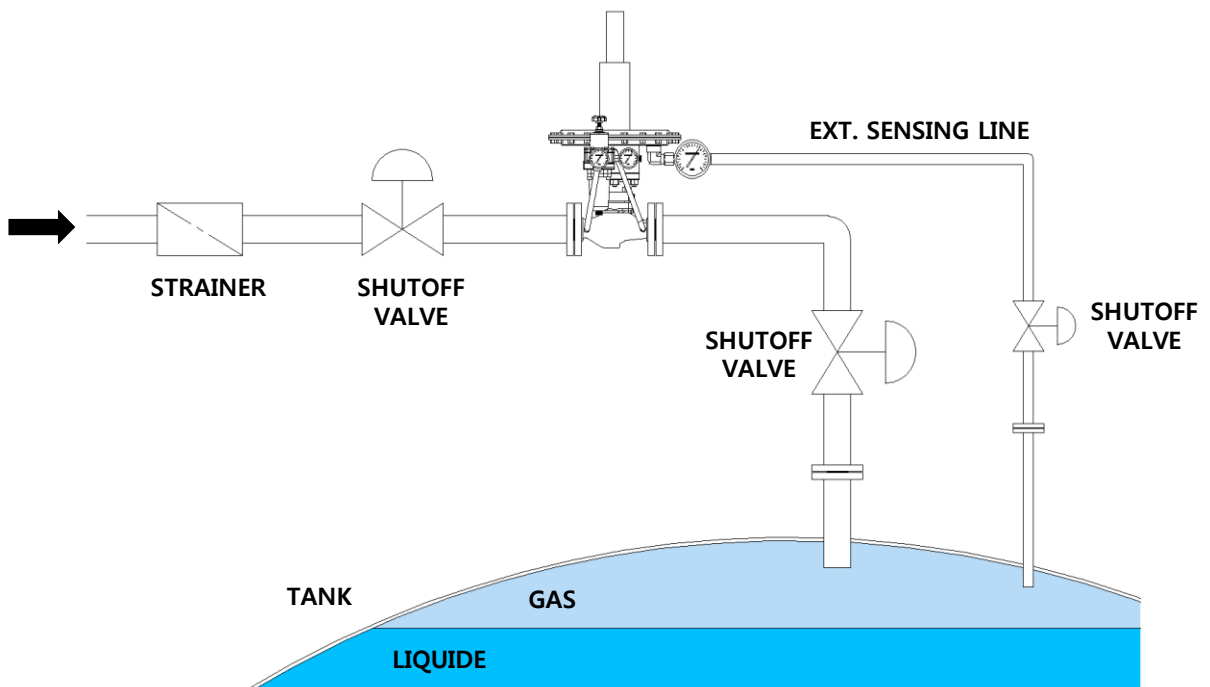

Figure 2. V510Series Tank Blanketing Valve Installation
1. Open shutoff valves between the blanketing valve and the tank (both sensing and outlet). (See Figure 2)